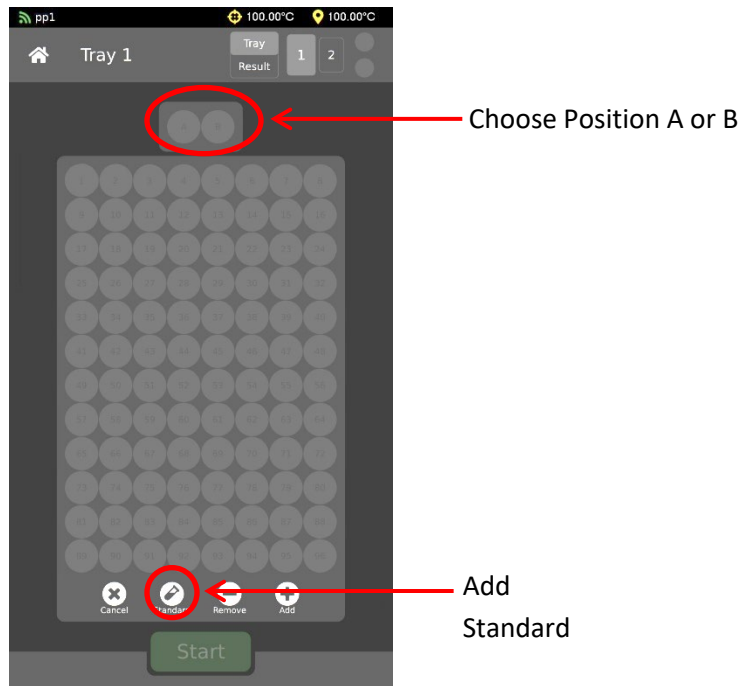

Figure 35: Load Backpack
1. Choose position for the standard by using a single touch to select position **A** or **B** in backpack and then selecting **Standard** button. See Figure 35.